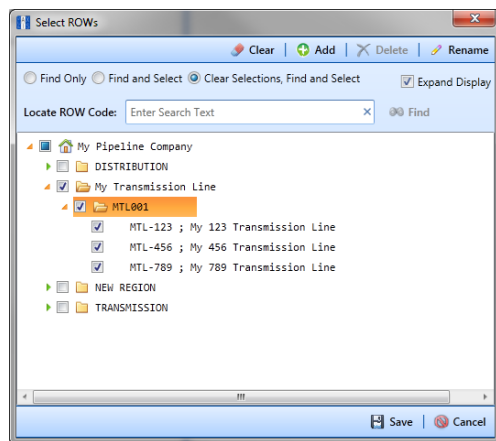

Figure 9-43. Select ROWs
- 1 Select one or more pipeline segments in the *Select ROWs* window. Choose pipeline segment(s) with facilities you want to include in the Bridge Bullhorn definition. Click  **Save** to close the window (Figure 9-43).
- 1 Select one or more pipeline segments in the *Select ROWs* window. Choose pipeline segment(s) with facilities you want to include in the Bridge definition. Click  **Save** to close the window (Figure 9-43, page 428).